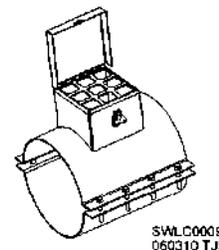

Fig. 76 – View port
- b. View ports can be added “downstream” of grain inlets to check grain flow. See Fig. 76.